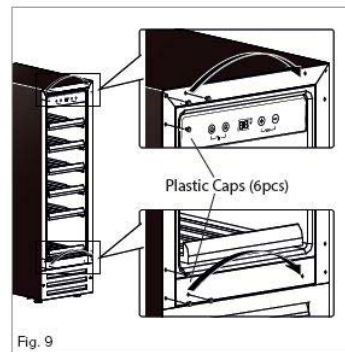

Fig. 9
4. Remove the plastic caps from the left hand hinge positions and fit them into the now empty right hand hinge holes, as per Fig. 9.